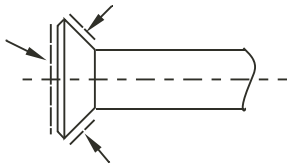

Fig.7-6
- When connecting the flare nut, coat the flare both inside and outside with either oil or ester oil and initially tighten by hand 3 or 4 turns before tightening firmly. (Refer to Fig.7-6)